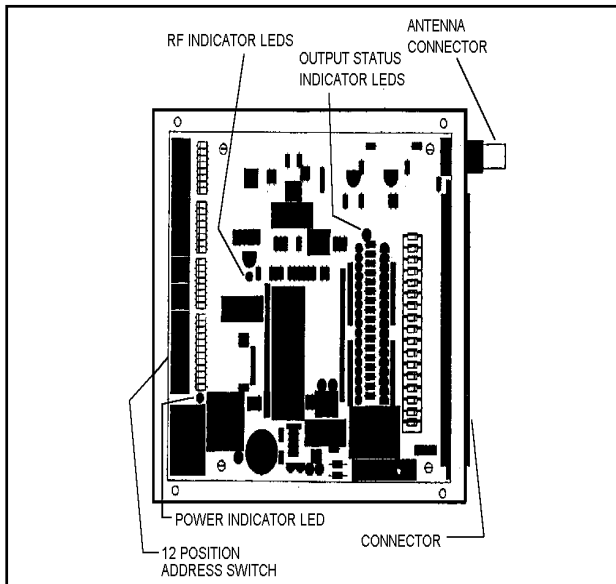

Figure 4-5 Receiver Printed Circuit Board
- a. Remove the cover on the receiver. (See **Figure 4-5**.)